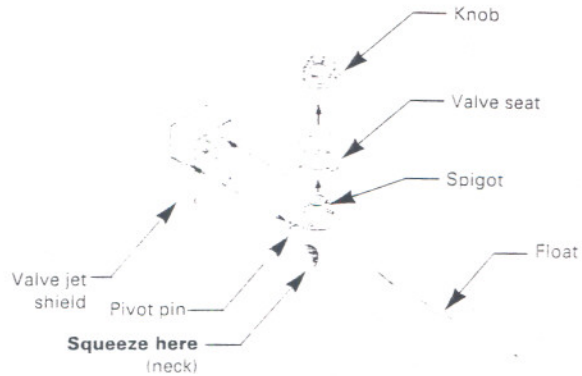

FIG.28
2. Place your thumb and forefinger around the **neck** of the float as shown in Fig.28